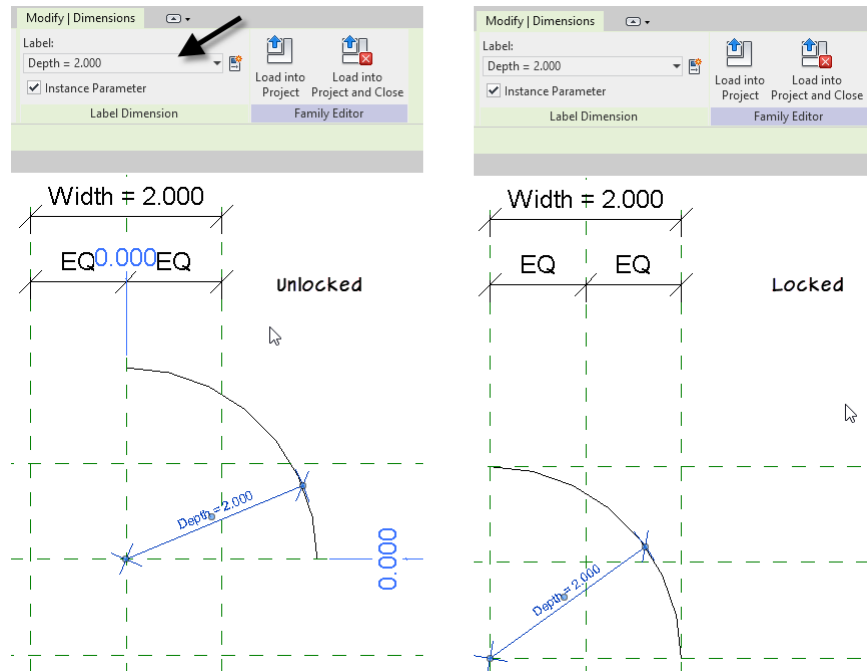

Figure 13—Relying on automatic dimensions vs. applying locks
8. Add the radius dimension and again label it with the Depth parameter (see Figure 13).